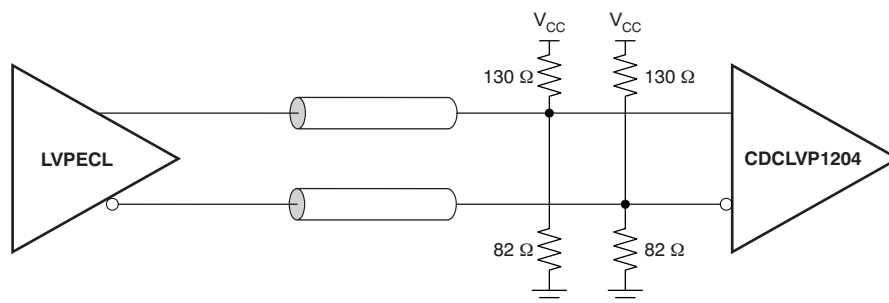
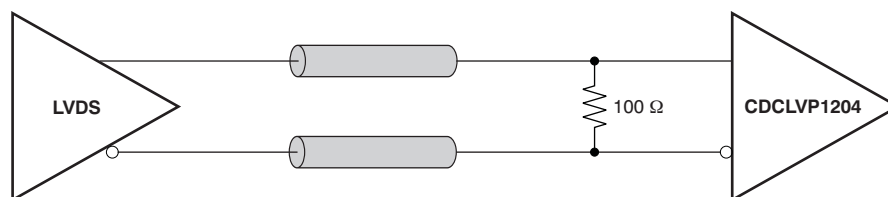
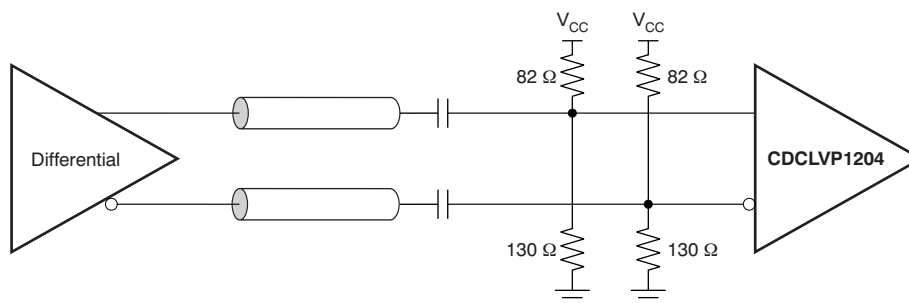

Figure 5. DC-Coupled LVPECL Input During Device Test
Figure 6. DC-Coupled LVDS Input During Device Test
Figure 7. AC-Coupled Differential Input to Device
(1) Figure 5 and Figure 6 show dc test setup. Figure 7 shows ac test setup.